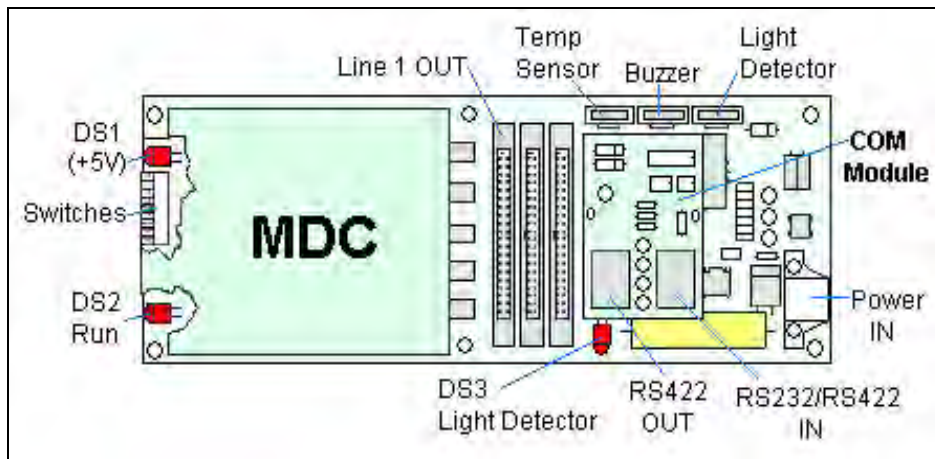

Figure 34: Controller Board
4. See **Figure 34** below for LED and connector locations.